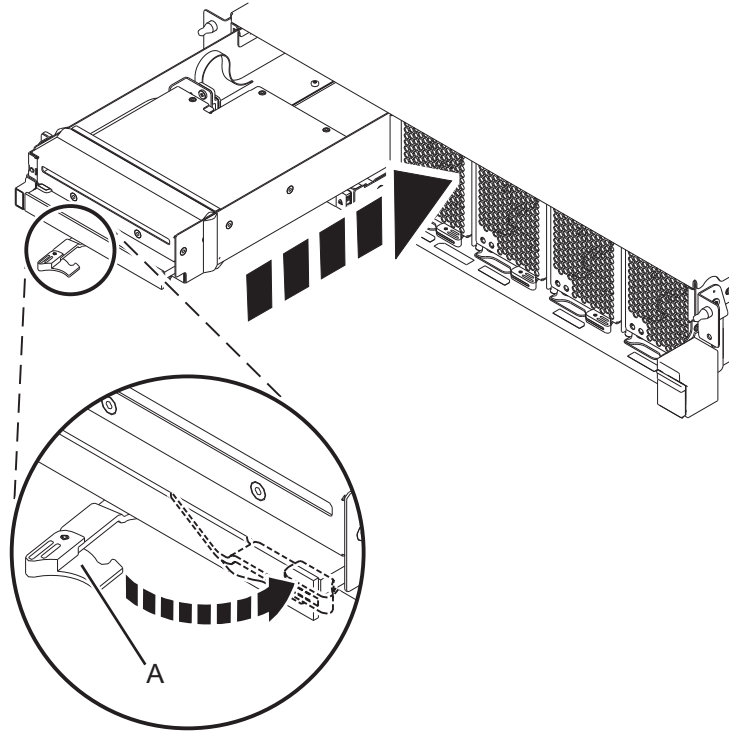

Figure 1. Installing a Slimline media device in an 9080-MHE, 9080-MME, 9119-MHE, or 9119-MME system control unit
- a. Ensure that the Slimline media device handle (A) is rotated open as shown in Figure 1 on page 3.
- c. Slide the device into the system and rotate the handle (A) in the direction shown until the latch locks in place.